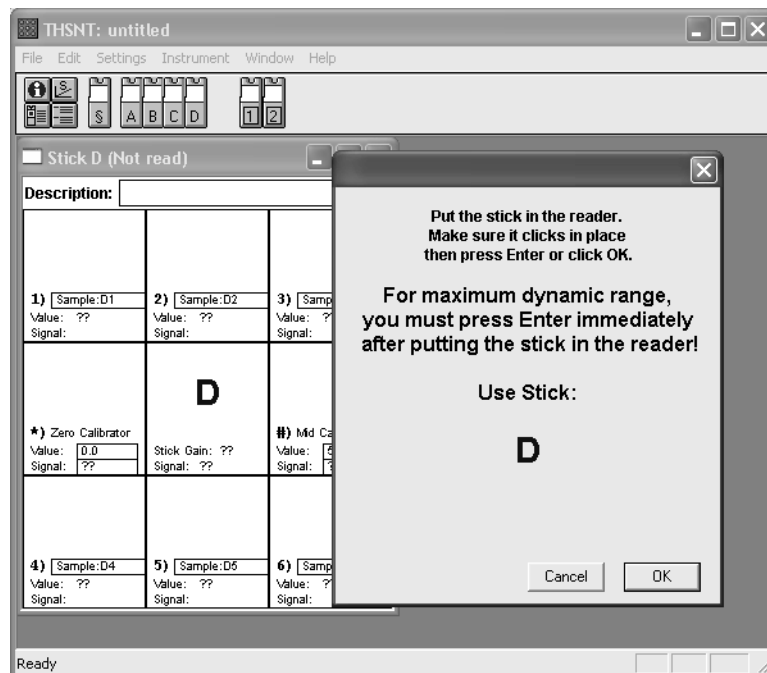

Figure 4-13: The Stick Display Window for the Stick to Be Read
- 4) When the tests are complete, follow the detailed instructions that appear on the screen (Figure 4-13).